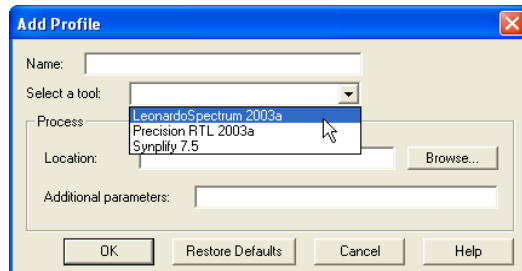

Figure 3-4. Add Profile Dialog Box in Libero IDE
- Click the **Restore Defaults** button to use the default tools included with Libero IDE. Click the **Add** button to add a different Synthesis, Simulation, or Stimulus tool. If you wish to **Add** a tool, Libero IDE opens the **Add Profile** dialog box (Figure 3-4).